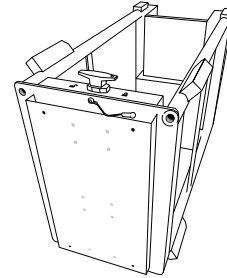

Fig. 1.1 Placing VivaCart on side with shelf locking mechanism facing up.
1. Turn the VivaCart on its side with lower shelf locking mechanism facing up (see fig. 1.1).